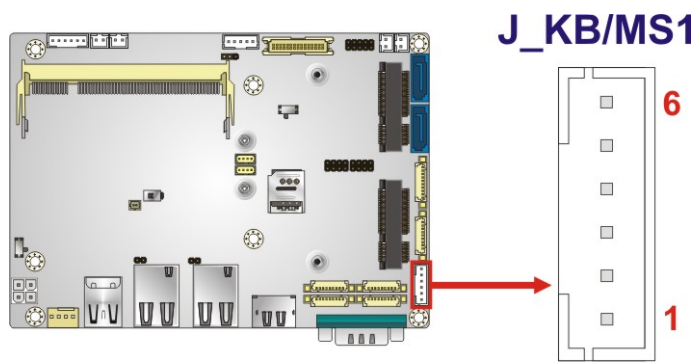

Figure 3-8: Keyboard and Mouse Connector Location
- CN Location:** See **Figure 3-8**